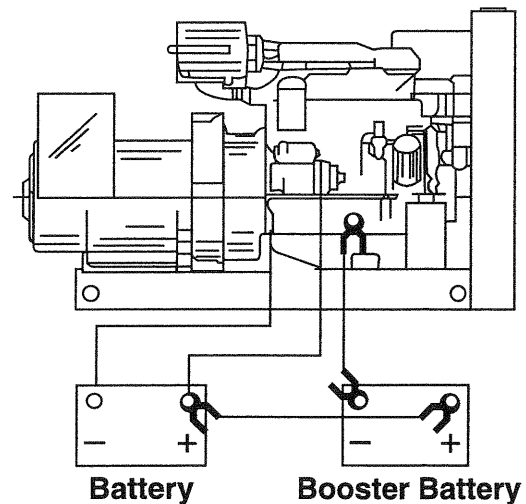

Figure 16: *Booster Battery Connections*
3. First, connect the positive (+) terminal of the booster battery to the positive (+) terminal of the main battery. Then, connect the negative (-) terminal of the booster battery to ground on the engine block (Figure 16).